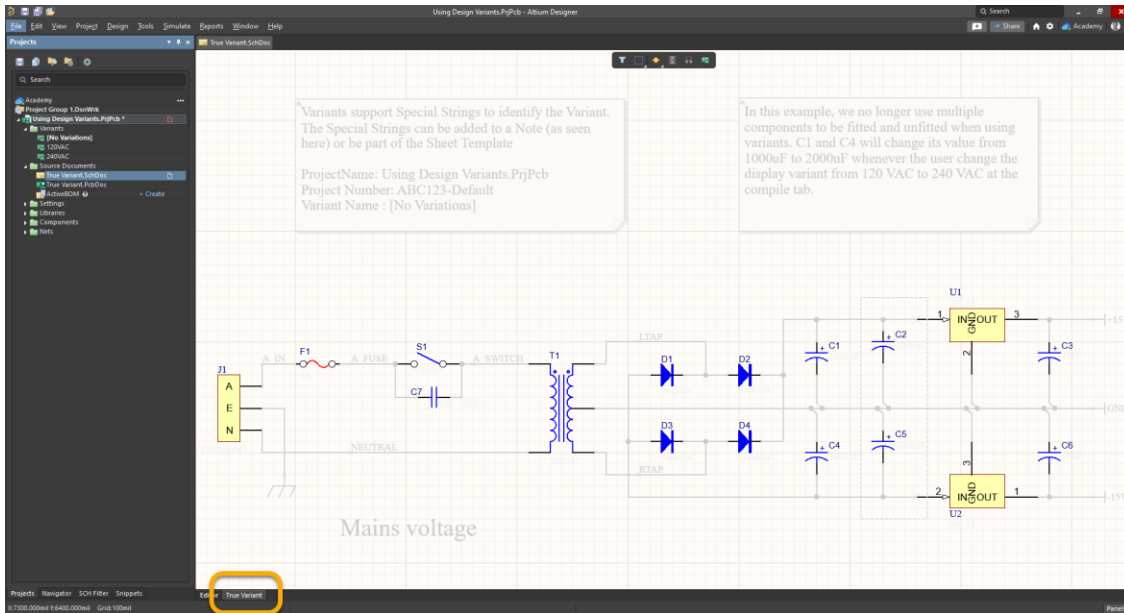

Figure 6. The Compiled Tab
18. From the schematic, select the *Compiled tab* named `True Variant` which is outlined in Figure 6 below.